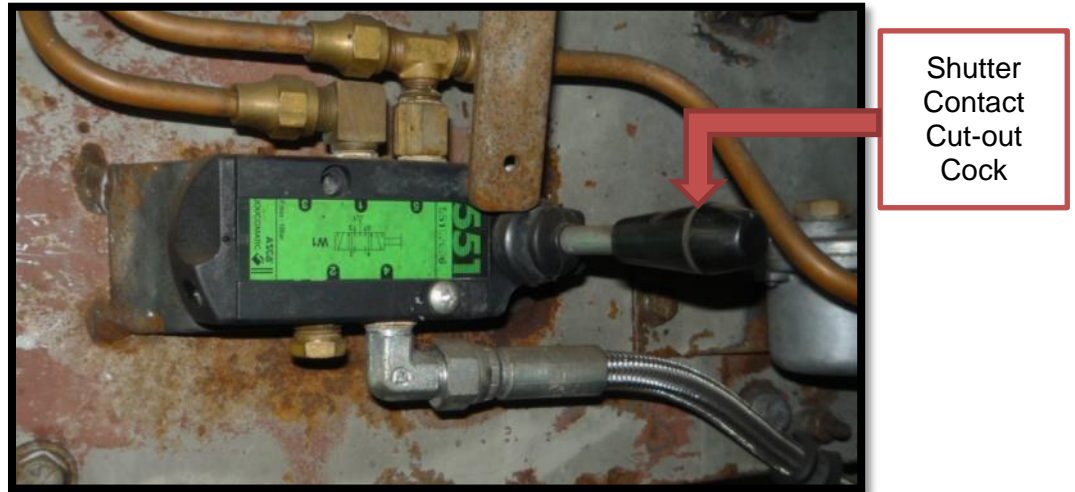

Figure 19: Shutter Contact Cut-out Cock
Shutter Control Cut-out cock (*Figure 19*)
- Check the shutter contact cut-out cock (*Figure 19*) is in the automatic position.